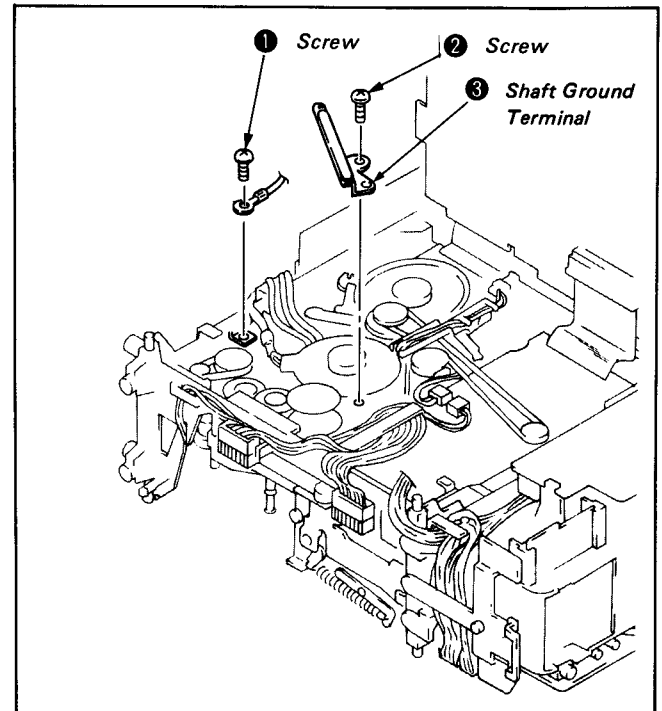
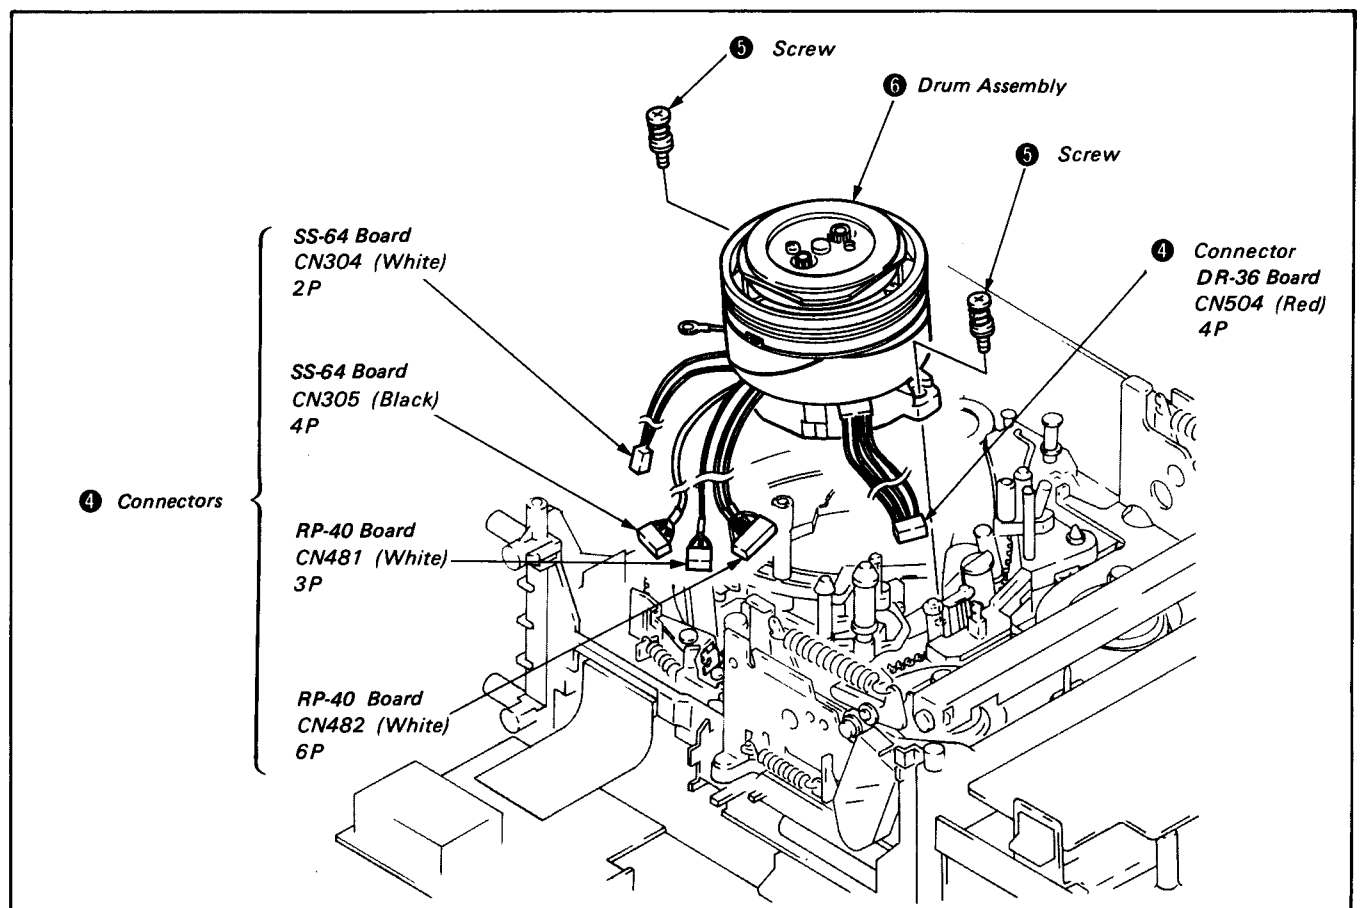

Fig. 8-51.
Fig. 8-52.
(See Fig. 8-51.)
- 4) Disconnect five connectors ④.
- 5) Remove two screws ⑤.
- 6) Remove the drum assembly ⑥. (See Fig. 8-52.)
- 1) Remount the drum assembly ⑥ and tighten two screws ⑤.
- 2) Connect five connectors ④. (See Fig. 8-52.)
- 3) Remount the shaft ground terminal ③ and tighten the screw ②.
- 4) Remount the screw ①. (See Fig. 8-51.)